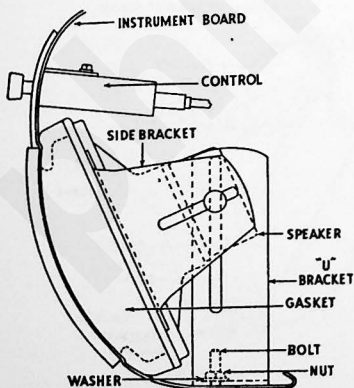

Figure 10
3. Fasten the "U" bracket to the instrument board flange with the nuts, bolts and washers. Make sure that the long slot in the sides of the "U" bracket are toward the grille. (See figure 10).
5. Loosely assemble the side brackets on the speaker to the "U" bracket, and force it forward and in position as shown in Figure 10. Then tighten the nuts.